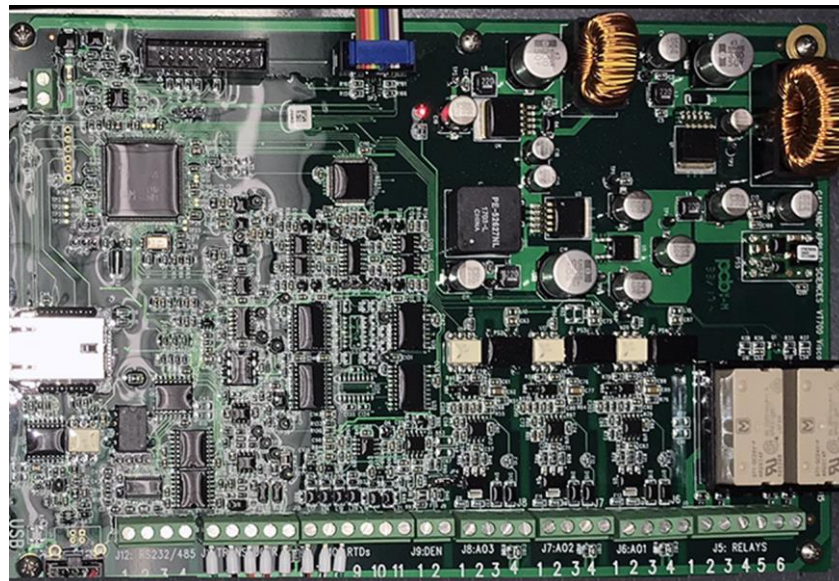

Figure 2.6: ViscoSite Transmitter Motherboard
The ViscoSite transmitter's motherboard is mounted to the chassis base plate behind the swing panel. If Intrinsically Safe (IS) barriers are required for the application, they are also mounted **and grounded** (as provided) to the chassis base plate behind the swing panel. The motherboard of the ViscoSite transmitter is shown in Figure 2.6.